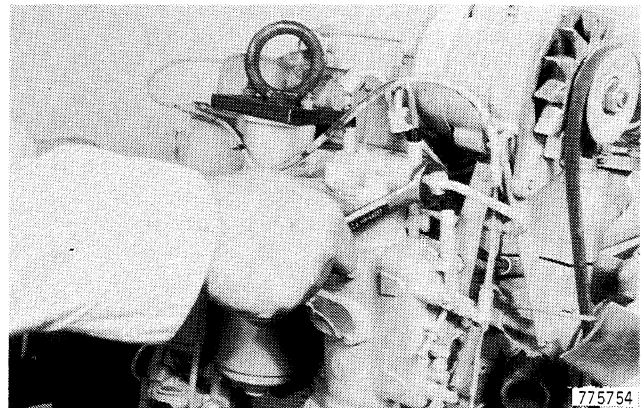

Figure 8
4. Disconnect the fuel supply tube at the injection pump, Figure 8.